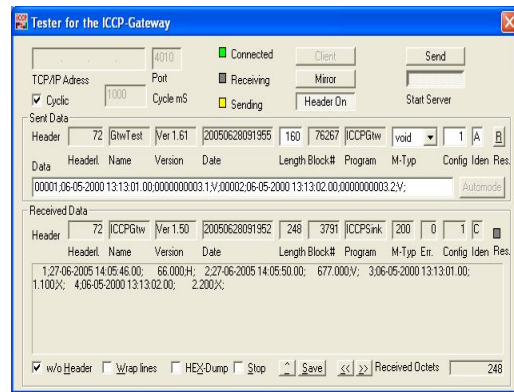

Figure 2: Test program, graphical user interface
- A test program is included in the software package to simulate the local SCADA, see figure 2.